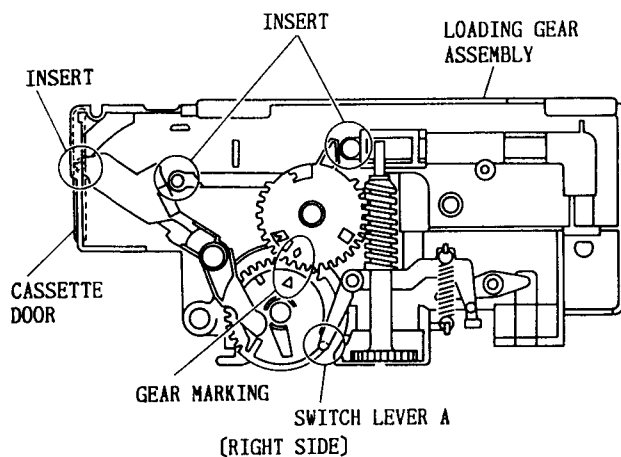

Fig. 5-5
- * When reinstalling the loading gear assembly, check that two (2) bosses of the cassette holder are inserted into the grooves on the right of the chassis holder. (Fig. 5-5)
- * Check that marking (Δ) on the synchro gear and marking (◇) on the clutch gear are aligned. (Fig. 5-5)
- * Check that the boss of cassette switch lever (A) is set to the cam of the synchro gear.